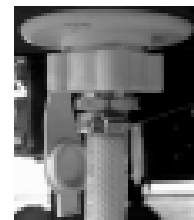

Fig. 4-8
2. In a large bucket prepare a chlorine solution using 3/4 cup of household bleach and three (3) gallons (12 liters) of water.
3. Attach the intake hose to the "City Fill Connection" located under the utility center panel. (Fig. 4-8) Place the free end in the bucket of chlorine solution.
7. Attach a garden hose to the “City Fill Connection” (Fig. 4-8) and finish filling the tank.
13. With the garden hose connected to the “City Fill Connection” (Fig. 4-8), refill the tank with fresh water as in steps 6 and 7.